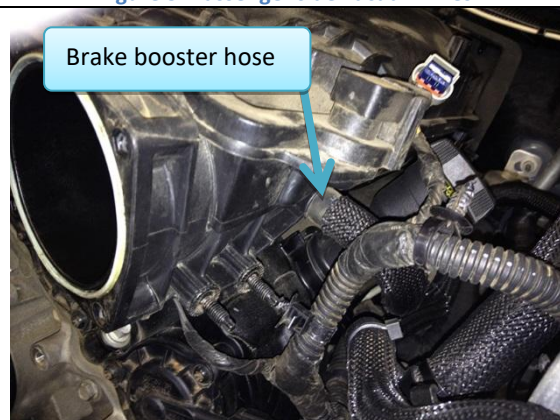

Figure 6: Brake booster (mesh covered).
- 4.2. Pull off brake booster on driver side (Figure 6)